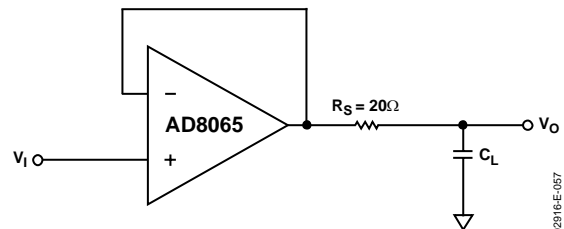

Figure 57. Output Isolation Resistor
- As shown in Figure 57, put a small value resistor (R_S) in series with the output to isolate the load capacitor from the amp's output stage. A good value to choose is 20Ω (see Figure 10).